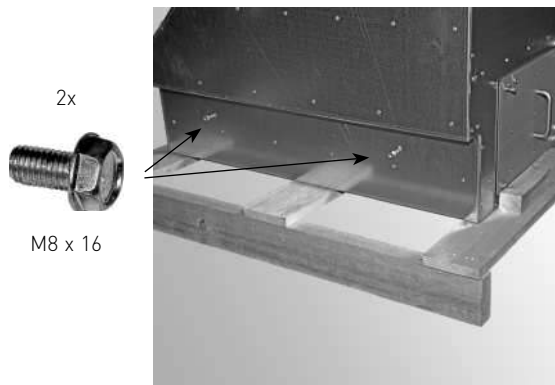

Fig. 23 Inserting screws by approx. 1/3
- Fit 2 TT screws (M8 x 16) about 1/3 of the way into the side of the integral fuel hopper – Fig. 23.